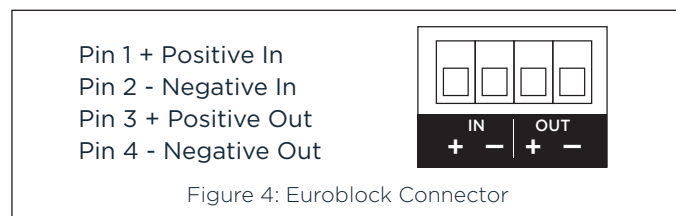

Figure 4: Euroblock Connector
2. Connect the wires from your amplifier to the Euroblock Connector (see Figure 4).